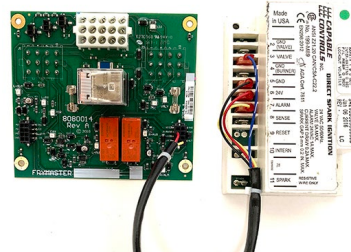

Figure 11
5. Use the **Full Vat** (Two Capable Control Modules) chart to the right, for wire connections, when attaching to the modules (see Figures 11 and 12).
5. Use the **Dual Vat** (Two Capable Control Modules) chart to the right, for wire connections, when attaching to the modules (see Figures 11 and 12 above).